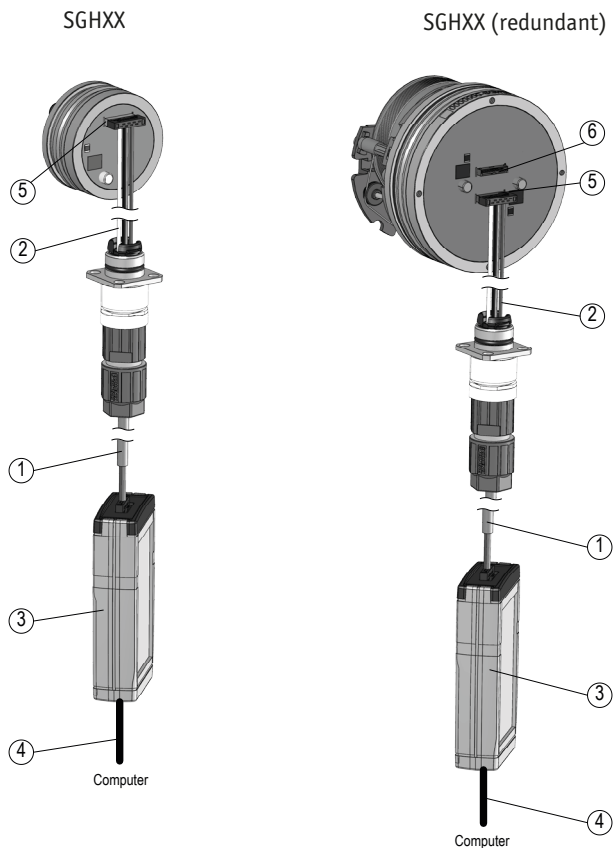

Fig. 1: Connection at the wire-actuated encoder with KV1H and programming cable
The wire-actuated encoder is parameterized via the supplied programming cable ① (M12). The programming cable ① is connected to the SGHXX via the KV1H ② cable connection (see Fig. 1).